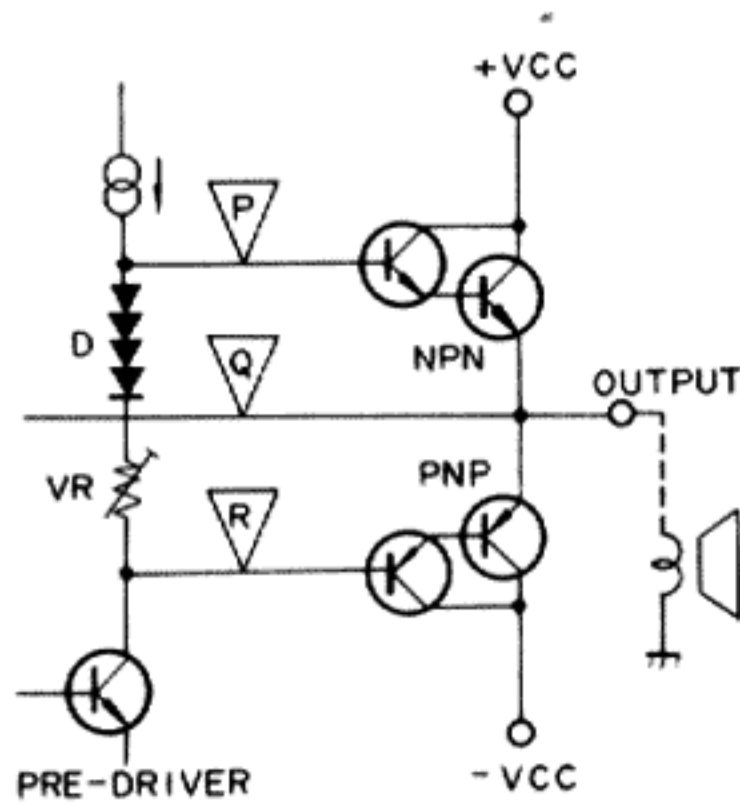
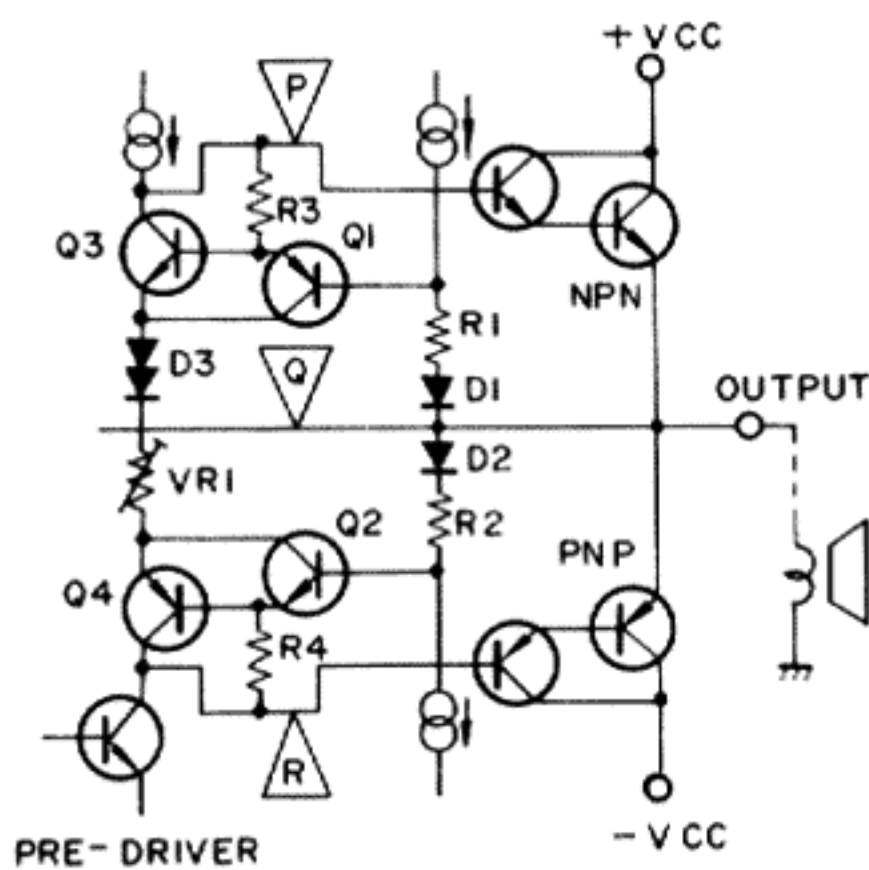

Fig. 4 Normal class B SEPP power stage
Fig. 5 Outline of NSA circuit
Since idle current flows through normal class B SEPP power stages (see Fig. 4) when no signal is applied, the DC level is shifted by D and VR by a fixed amount (with the voltage across points (P) and (R) serving as a bias). The voltages across points (P) and (Q), and (Q) and (R) at this time will be equal. When the positive portion of a signal
This NSA circuit is outlined in Fig. 5. When there is no signal applied to the circuit,  $Q_1$  and  $Q_2$  are almost cut off, while  $Q_3$  and  $Q_4$  will be on. The voltage across the collector and base of both of these transistors ( $Q_3$  and  $Q_4$ ) at this time may be disregarded. Consequently, with the power stage bias circuit consisting of 4 PN junctions formed by  $Q_3$ ,  $D_3$ , and  $Q_4$ , and  $VR_1$ , this circuit is equivalent to the previous circuit shown in Fig. 4.